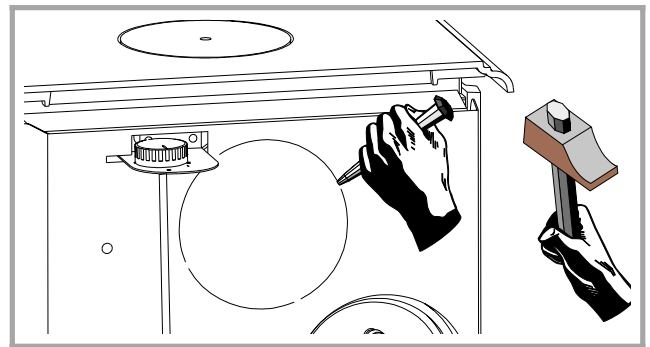

Figure 6 - Back panel
- Remove the rear heat shield and the cut-out on it (fig. 6).